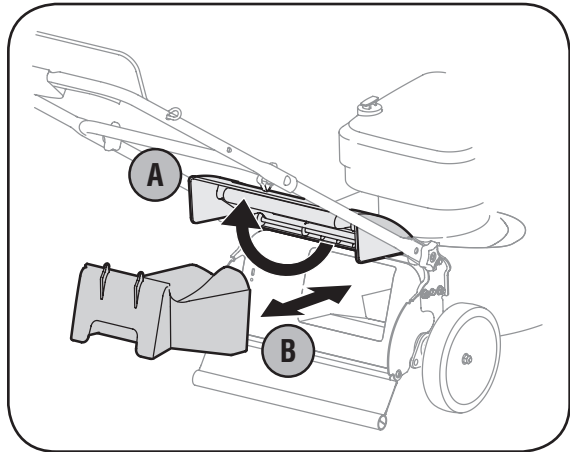

Figure 3-5: The mulching baffle
6. Before attaching the grass catcher, the mulching baffle must be removed. Refer to Figure 3-5.
- b. Insert the mulching baffle as shown in Figure 3-5 and release the rear discharge door.